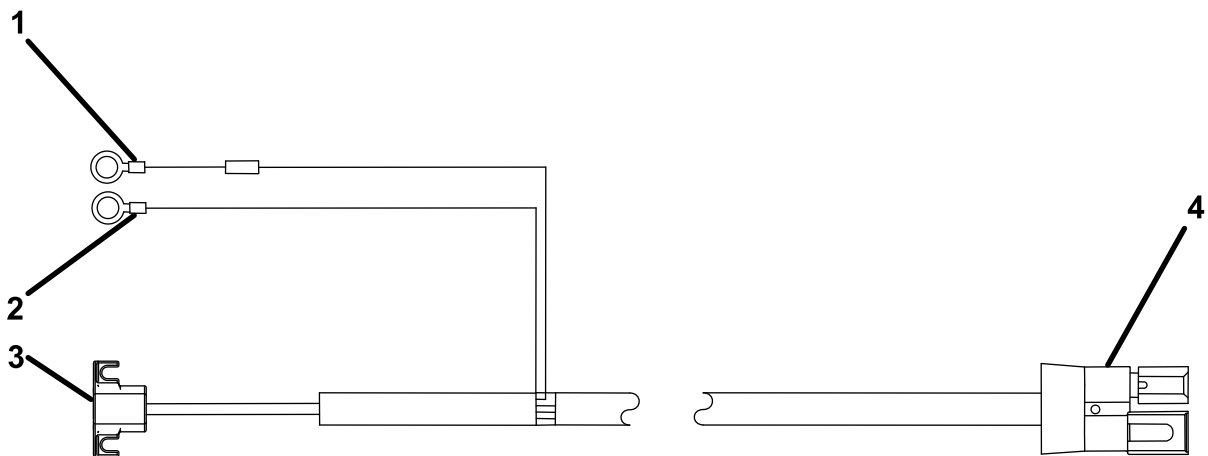

Figure 3
1. Secure the spreader connector on the vehicle wire harness (Figure 3) to the center of the rear vehicle bumper with a cable tie.
4. Connect the black ring connector in the engine compartment to the negative (-) battery terminal (Figure 3).
5. Connect the red ring connector in the engine compartment to the positive (+) battery terminal (Figure 3).